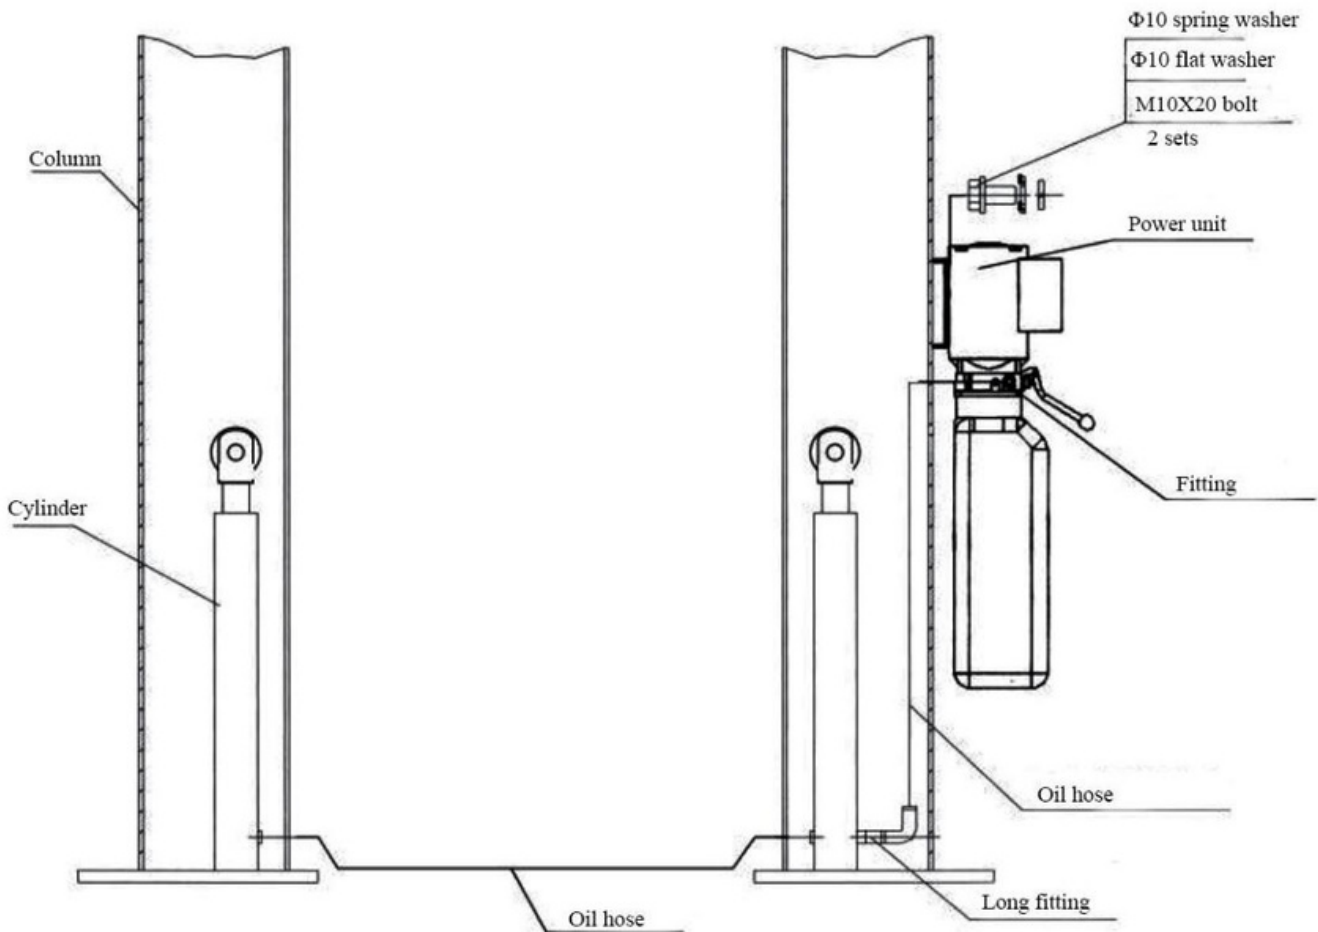
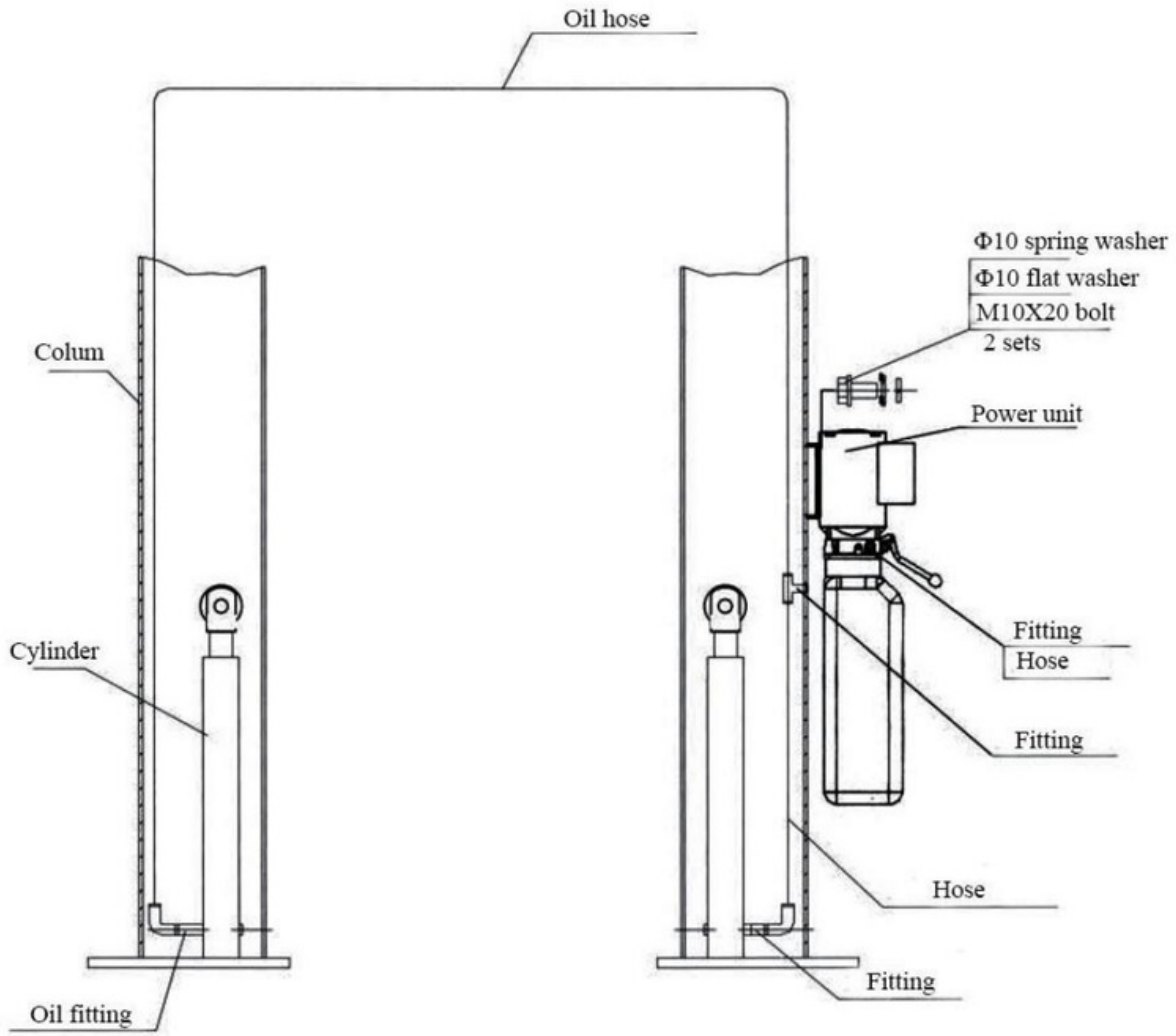

Fig.12a
Fig.12b
- Use two M10 Bolt s and washers to fix the power unit (as shown in Fig. 12a、12b). for **clear floor** models, install the hydraulic line as shown in Fig. 12b, for **floor plate** models, install the hydraulic line as shown in Fig. 12a and tighten all the fittings top revert oil leakage.